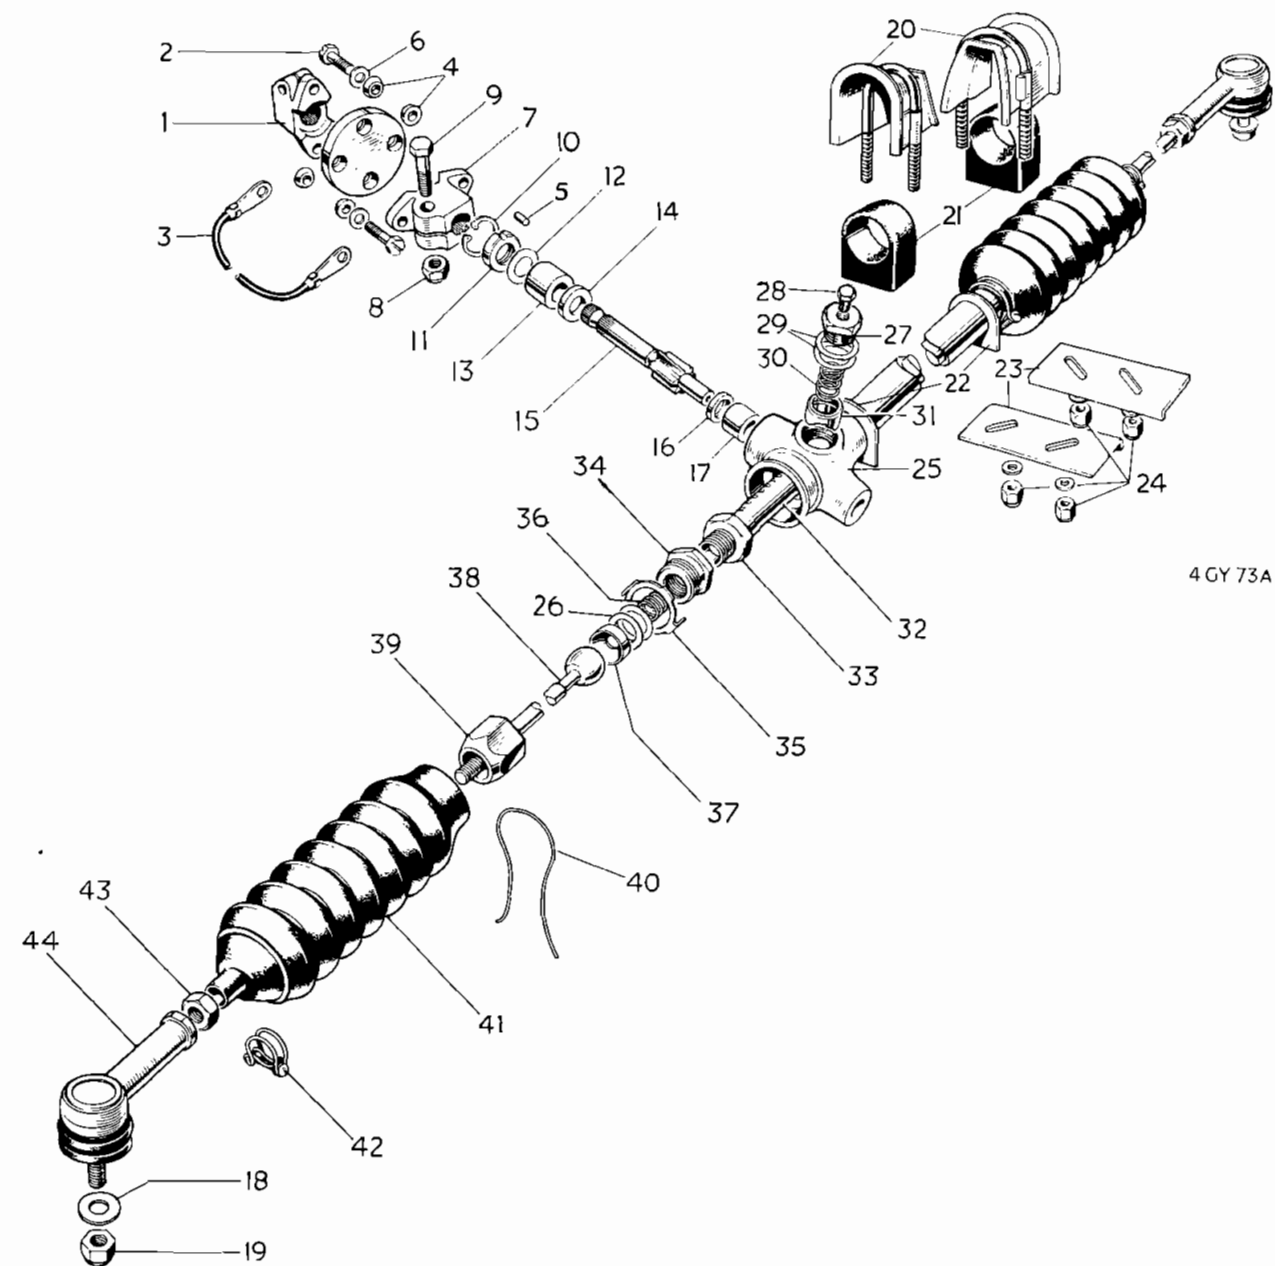

Fig. 4. Exploded steering unit
Limitation of the steering lock is controlled by the locknut (33) Fig. 4, contacting the rack tube. Thus dimension (3) Fig. 1 is particularly important. Providing that this dimension is accurate and the steering unit is centrally mounted on the chassis, correct steering locks should result.
Centralize the steering unit and measure the front wheel alignment, using Dunlop or similar wheel alignment equipment. If adjustment is required, slacken the locknuts (43) Fig. 4, the clips (42) and rotate the tie-rods (38) until alignment is correct. Note the reading. Roll the vehicle forward to rotate the wheels 180°, and take a second reading. Adjust the tie-rods to a mean of the two readings thus allowing for wheel rim run-out.
Key to Fig. 4
3. Referring to Fig. 4, remove in the following order, items (24), (23), (20) and (21).